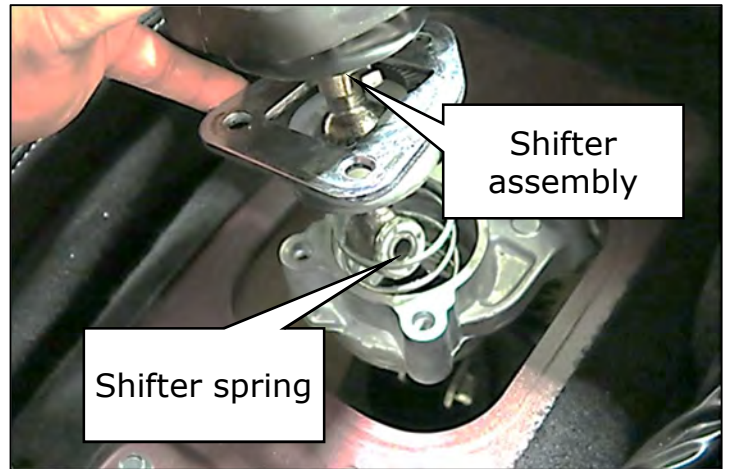

Figure 40
41. Lift the shifter out of the transmission bracket and place outside of the vehicle. (Figure 40)